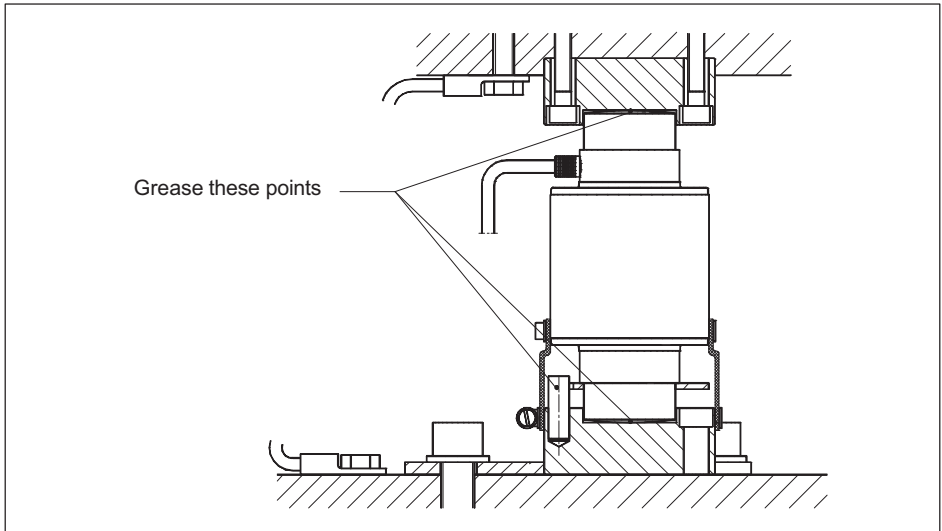

Fig. 6.2 Points to be greased
- ▶ To protect against wear, contamination and corrosion, generously grease the upper and lower load application elements in the loading point and the dowel pin and rotation stop on the load cell using the supplied grease (Fig. 6.2).